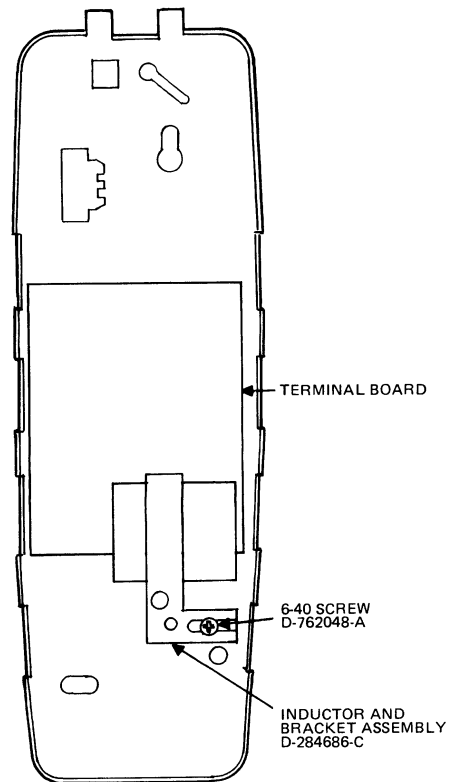

Figure 5. Mounting Inductor in Type 981A and 982A STYLELINE Bases.
3.08 To mount the inductor assembly kit (D-284686-C) in a Type 981A or 982A STYLELINE base, refer to Figure 5 and proceed as follows: